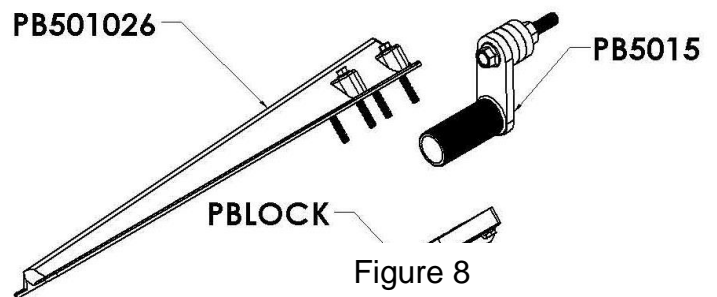

Figure 8
- A. Use four 5/16" x 3" bolts to attach the bracket (part number PB501026) and the backing block (part number PBLOCK) to the steel swivel (part number PB5015). Parts are labeled in Figure 8. The end of the pipe must be fully engaged into the bracket.